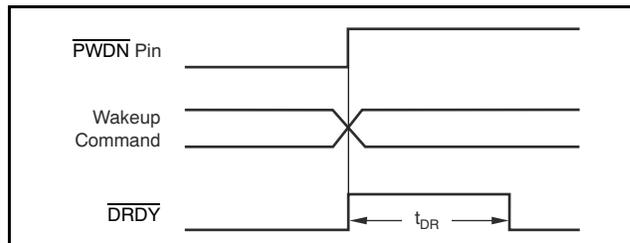

Figure 55. PWN Pin and Wake-Up Command Timing
In power-down, note that the device outputs remain active and the device inputs must not float. When the Standby command is sent, the SPI port and the configuration registers are kept active. Figure 55 and Table 11 show the timing.
(1) See Figure 55 and Table 11 for time to new data.